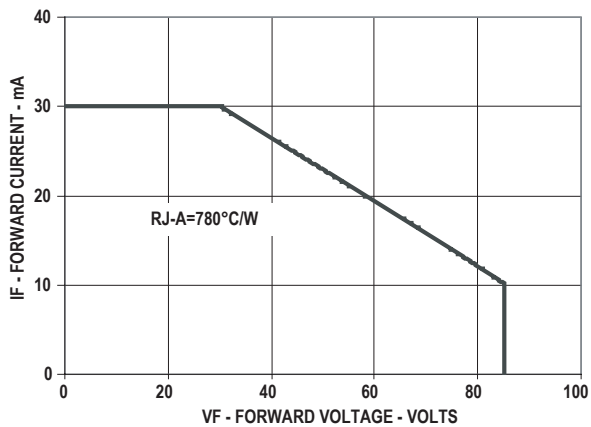

Figure 5. Maximum Forward current vs Ambient temperature based on  $T_J=110^{\circ}\text{C}$
1. Derate linearly as shown in Figure 5